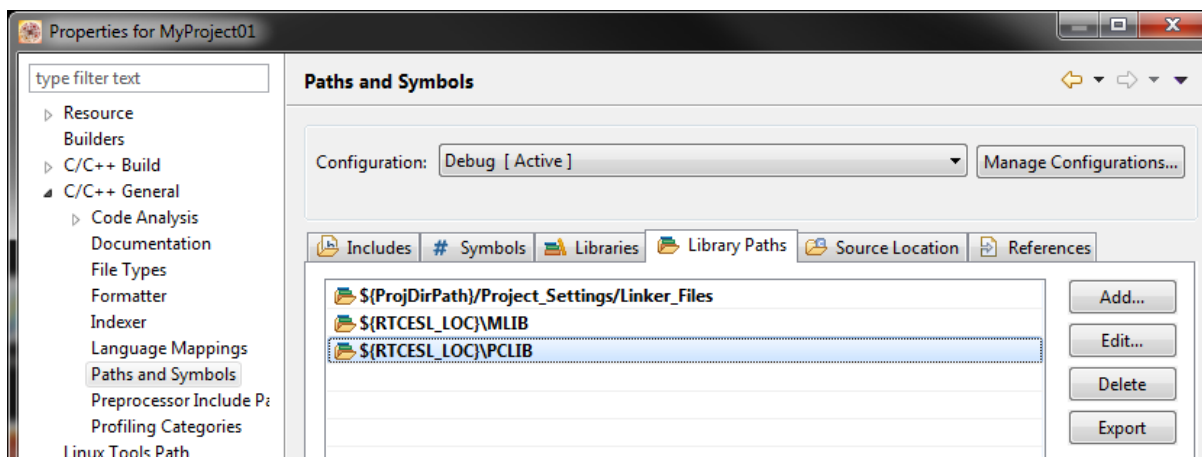

Figure 1-22. Library paths
- In the right-hand dialog, select the Library Paths tab. See Figure 1-22.
8. Click OK, and the will be visible in the list. See Figure 1-22.